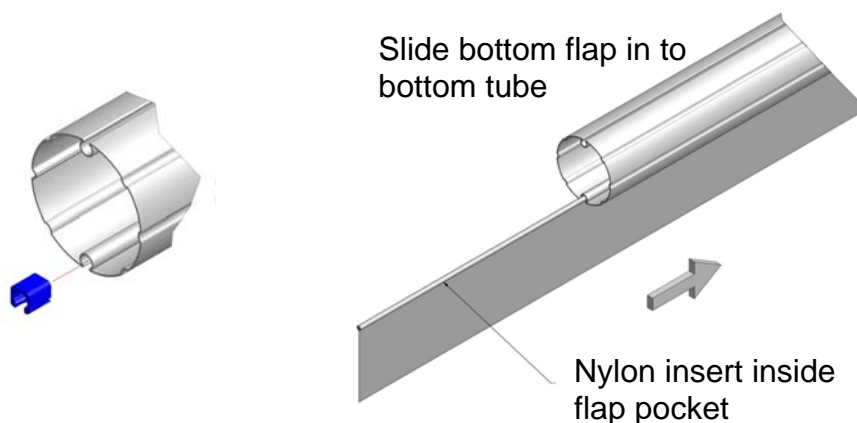

Figure 13, Flap Attached to Bottom Tube
12. Slide nylon insert (L1) into the pocket of the flap (C1) and slide flap into bottom flute, Figure 13.